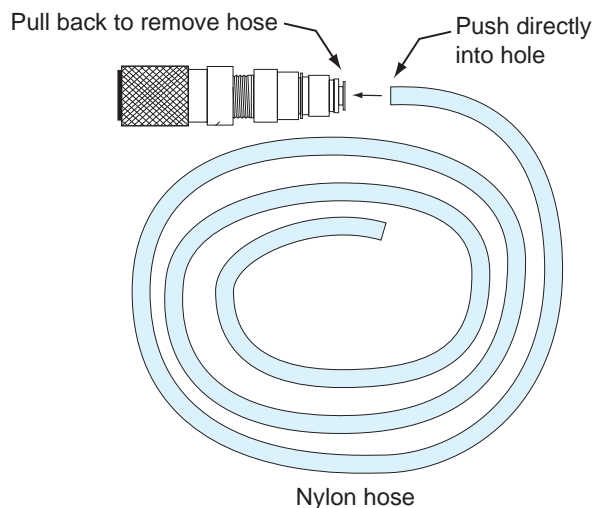

Figure 55. Drain Pan Adapter/Pump Primer
1. Attach the drain pan adapter (see Figure 55) to the SERVICE PORT on the control panel.
1. Attach the Drain Pan Adapter/Pump Primer (see Figure 55) to the SERVICE PORT on the control panel.